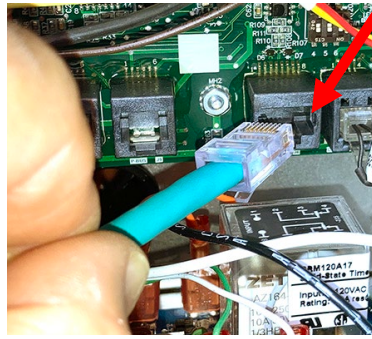
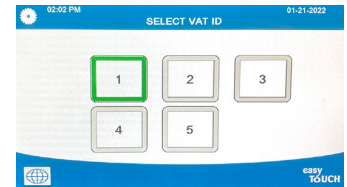

Figure 21
Figure 22
14. Attach the RJ45 cable to the SIB board (see Figure 21).
17. Attach the controller to the bezel reversing steps 4, 5 and 6. Attach using the two (2) screws removed in step 4.
18. For new controllers without a locator wire, the Vat to operate correctly and avoid a duplicate Vat ID **DUPLICATE BOARD VAT ID** is detected, **ALL** setup screen (see Figure 22). Select the correct VAT ID for **each vat**. Vat ID #1 is far left controller. Vat ID #2 is the next controller to the right, etc. If changes are required, go to Service>Service>3000>Tech Modes>Select Vat ID. Ensure the Vat ID is set up for correct vat ID number. Once all VAT IDs are selected, power cycle the fryer battery using process in Step 2 on the first page.